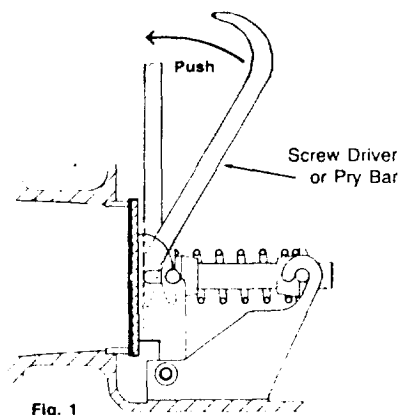

Fig. 1
## Installation - Indoors, Figure 1
3. Apply leverage between the spring guide assembly and the disc assembly as shown in Fig. 1.